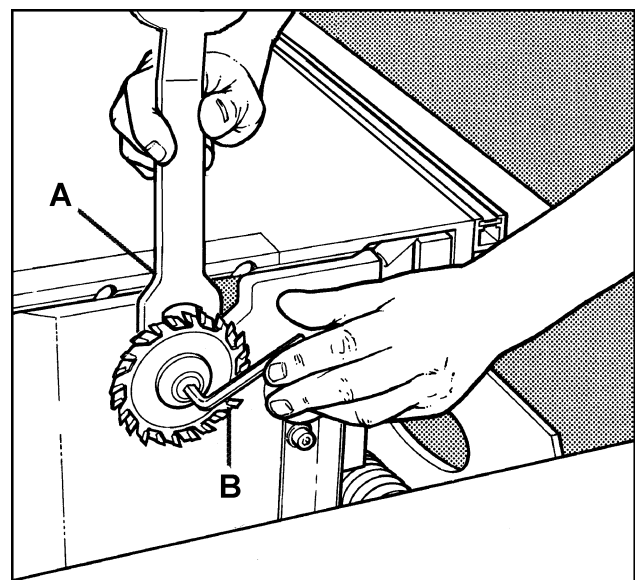

FIGURE 18
3. Tilt scoring blade all the way, and place spanner (A-Fig. 18) on the flat of the arbor.
4. Loosen the bolt with the hex wrench (B-Fig. 18). (NOTE: Right hand threads-turn counterclockwise to loosen).